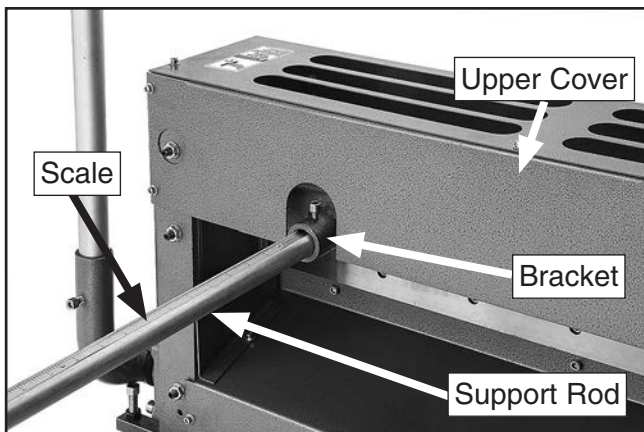

Figure 3. Connecting support rod to bracket.
1. Slide support rod into each bracket with measurement scale facing up (see **Figure 3**).